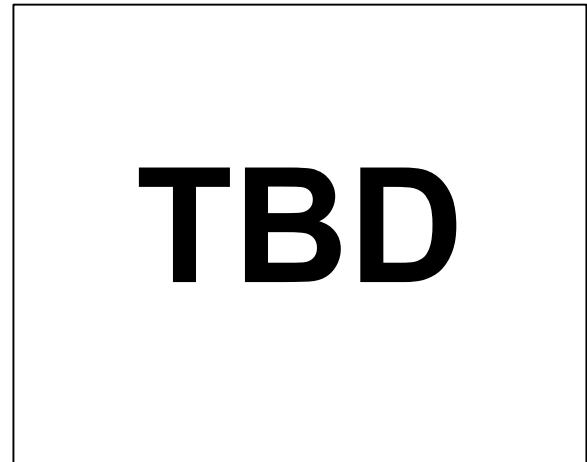

Figure 3. SOIC\_N Maximum Power Dissipation vs. Temperature
1 Values relate to package being used on a standard 2-layer PCB. This gives a worst-case  $\theta_{JA}$  and  $\theta_{JC}$ . Refer to Figure 3 for a plot of maximum power dissipation vs. ambient temperature (TA).